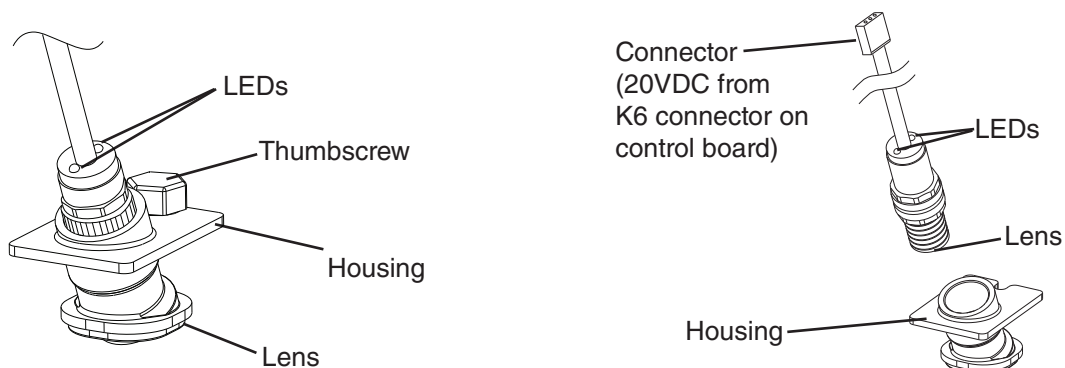

Fig. 4
- 4) Confirm that BC1 is connected to CB K6 connector. Wipe down BC1 lens with a warm, clean, damp cloth. If the bottom of the icemaker is not accessible in your application, remove the thumbscrew securing the BC1 housing, then remove the housing from the base. See Fig. 4.
- 6) Turn on the power supply to start the automatic icemaking process. Check that BC1 green LED is on. The BC1 green LED confirms 20VDC power from CB to BC1 and remains on constantly. **Diagnosis:** If the BC1 green LED is not on, confirm 20VDC at CB K6 #1 (DBU) to CB K6 #3 (BR). If 20VDC is present and the BC1 green LED is off, replace BC1. If not, see step "3) BC1 (infrared sensor) Power Supply," under "II.C. Control Board Check."
- 8) CB "GM" and "COMP" LEDs are on. Use an object to cover BC1 lens at the bottom of the icemaker. If the bottom of the icemaker is not accessible in your application, remove the thumbscrew securing BC1 housing, remove the housing from the base, then cover BC1 lens. See Fig. 4. The yellow LED on BC1 turns on (flashing or steady). The yellow LED flashes when ice is at the outer limit of its range and turns steady as ice nears. After the yellow LED turns on (flashing or steady), BC1 shutdown delay timer starts. See "III.B.2. BC1 (Infrared Sensor) Shutdown Delay (S1 dip switch 1, 2, 3)." Comp (LLV/SLV on MLH model) should de-energize immediately after the shutdown delay timer terminates. 5 min. later, GM and FM/FMR should de-energize.